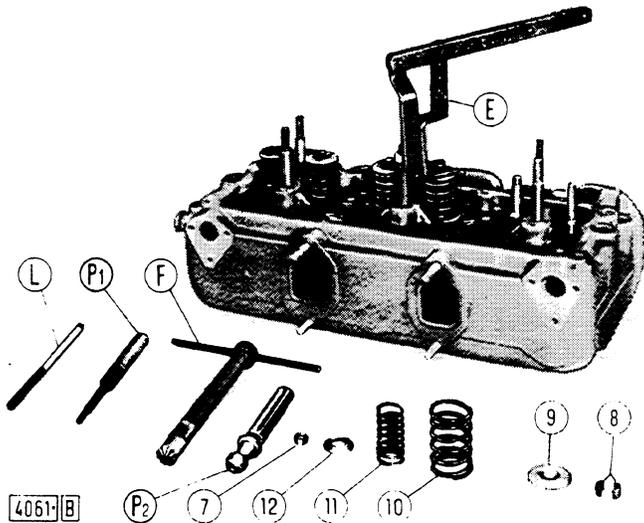

Fig. 22 - Removing (or Refitting) the Valves
If protrusion (L) is found to be less than the minimum indicated value, re-skim the injector taper seat in the sleeve using cutter **291339** (F, Fig. 22). If the protrusion is greater, the sleeve should be renewed.
Install the new injector sleeves into the cylinder heads using the hand press and expand their top end using punch **291350** (P₂, Fig. 22).
To remove the valves take off the cylinder heads, compress the valve springs using tool 291050 (E, Fig. 22) and withdraw spring cones (8).
To renew the valve guides use drift **291496** (P₁, Fig. 22) together with a suitable press, acting from the underside of the heads to remove, and from the top to refit.
- After refitting, each guide should be reamed again using reamer **291499** (L, Fig. 22).
- Cup retaining cones (8, Fig. 22) are correctly seated. In case of any doubt the cones should be renewed.
- Valve stem end caps (7) do not show any sign of upsetting on the sides in contact with the rockers. If damaged or excessively worn, the caps should be renewed.